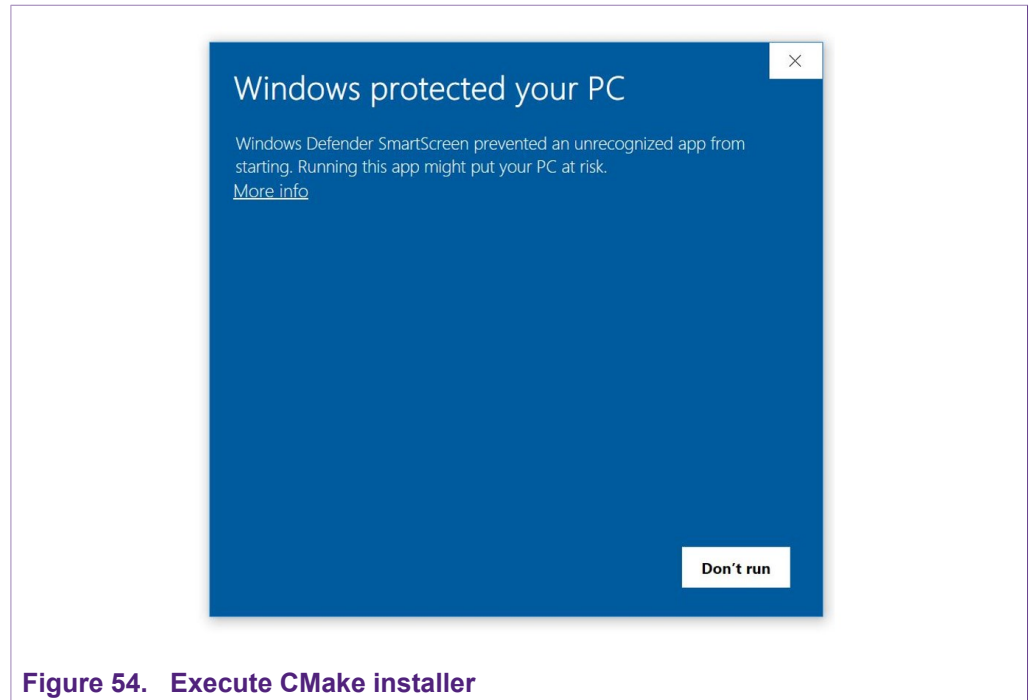

Figure 54. Execute CMake installer
3. Double click on the downloaded installer file. Windows Defender SmartScreen might pop-up the wizard shown in Figure 54: